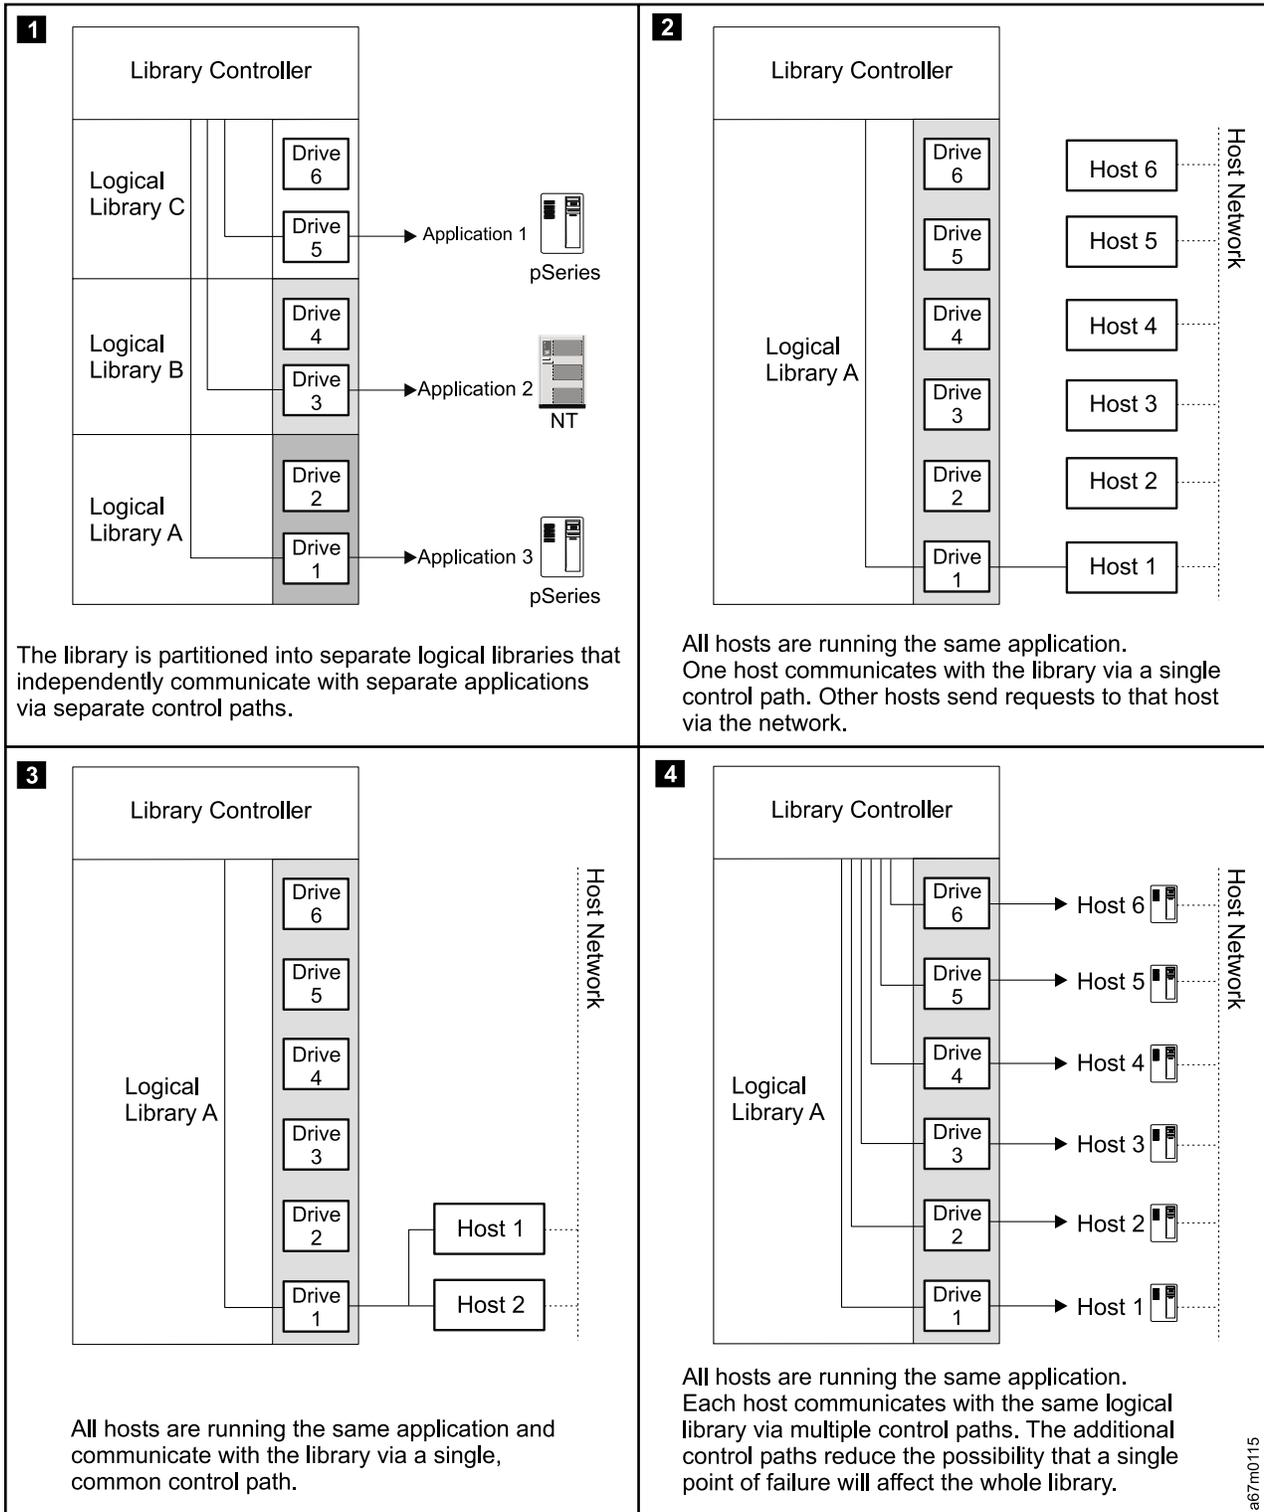

Figure 1-7. Examples of configurations for a Ultrium Scalable Tape Library. Lines from one or more drives to the library controller represent control paths.
- Configure the library so that it is partitioned into separate logical libraries that independently communicate with separate applications through separate control paths. This configuration (see example **1** in Figure 1-7 on page 1-16) requires no special capabilities from the server or application. (For more information, see “Using Multiple Logical Libraries” on page 1-17.)
- Configuring one server (host) to communicate with the library through a single control path; all other servers send requests to that server through a network (see example **2** in Figure 1-7 on page 1-16). This configuration is used by Tivoli® Storage Manager (TSM).
- Configuring all of the servers to communicate with the library through a single, common control path (see example **3** in Figure 1-7 on page 1-16). This configuration is used in high-availability environments such as IBM's High Availability Clustered Microprocessing (HACMP) and Microsoft's Systems Management Server (SMS) and Clustered Server Environments. Multi-initiator configurations are only supported by certain adapters and ISVs. Check with your ISV.
- Configuring a single logical library to communicate with multiple servers through multiple control paths. This configuration (see example **4** in Figure 1-7 on page 1-16) requires that you add control paths (see “Using Multiple Control Paths” on page 1-18). It is used by Backup Recovery and Media Services (BRMS).